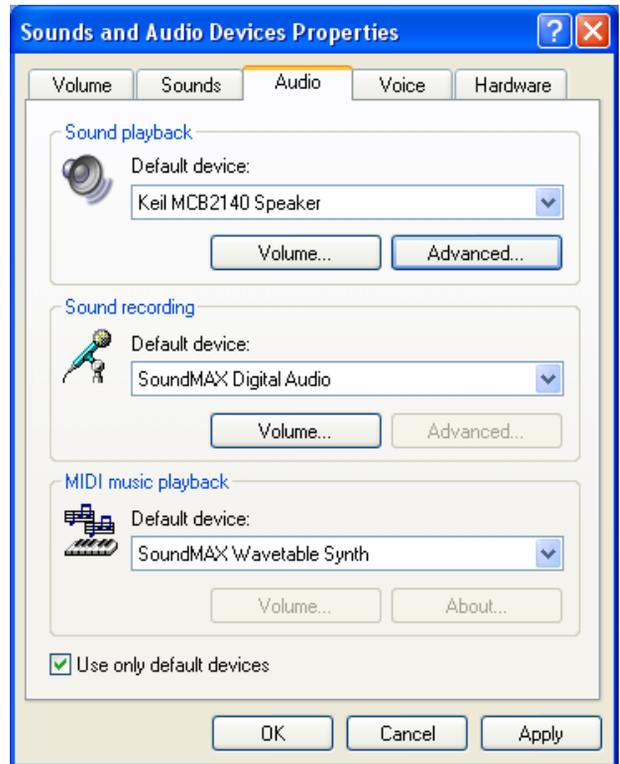

Figure 1-3 Select Keil MCB2140 as the default playback device
7. Ensure that the Keil MCB2140 audio device is selected as the default playback device. From the **Control Panel**, double click **Sounds and Audio Devices**. Select the **Audio** tab. Ensure that Keil MCB2140 Speaker is selected as the default Sound playback device (see Figure 1-3 on page 1-11).